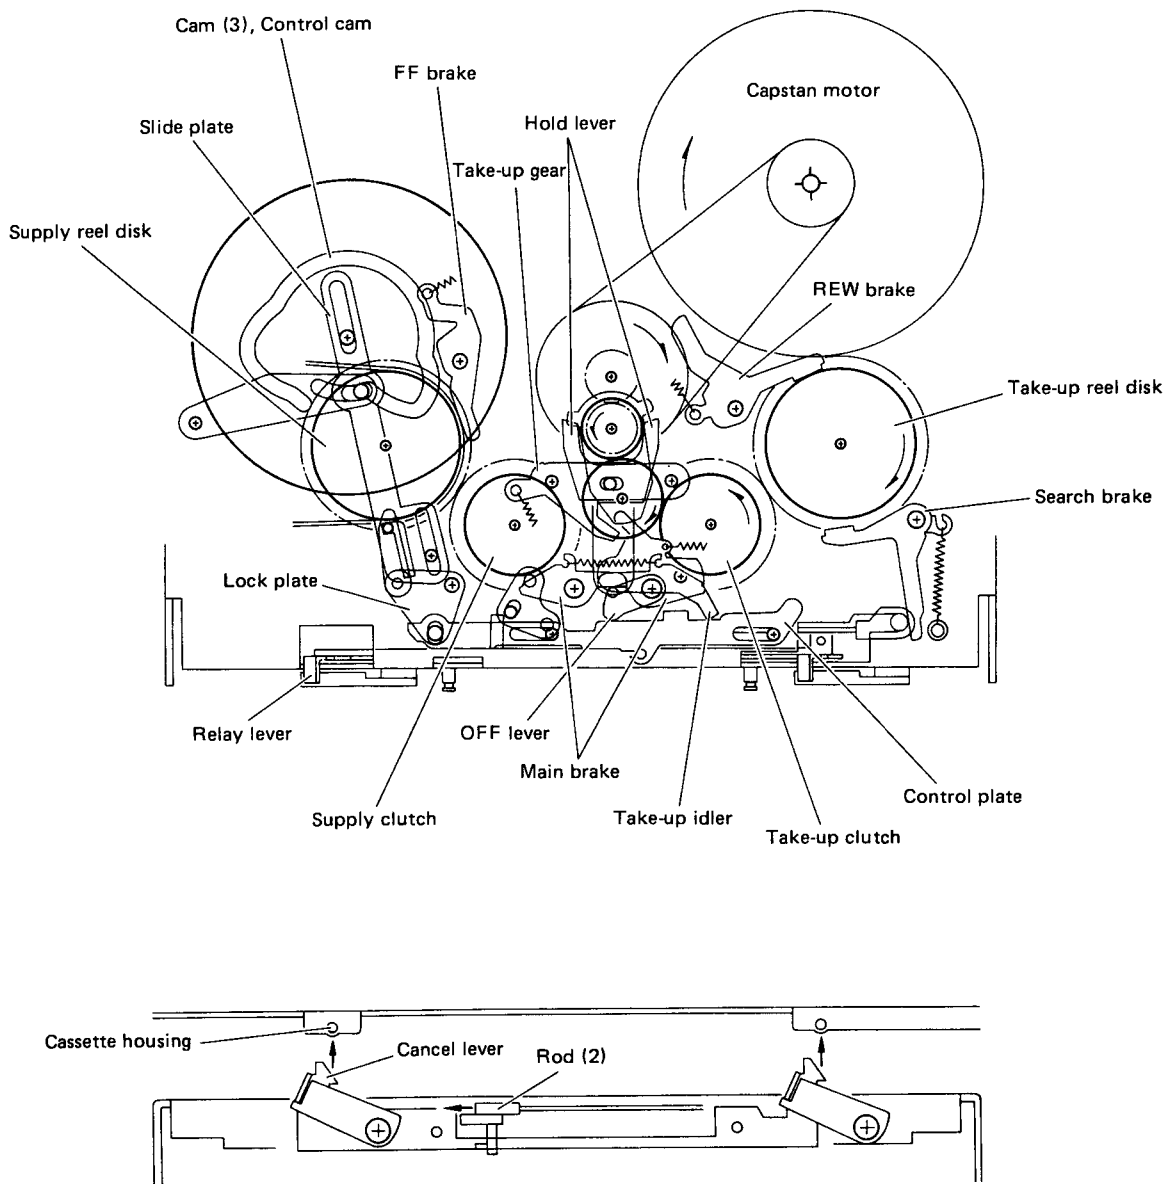

Fig. 7-5-9 FF mode
1. Not to disturb tape travel from the cassette the main brake is off the clutch by function of the cam (3). (Fig. 7-5-9)
3. The search brake is off the reel disk by function of the cam (1).
1. The main brake is off the clutch by function of the cam (3) not to disturb tape in travel. (Fig. 7-5-9)
2. Both the FF and REW brakes are off the reel disk by function of the cam (2).
1. The main brake is off the clutch by function of the cam (3). (Fig. 7-5-9)
1. The rod (2) pushes the lock plate by function of the cam (1) in order to release the housing arm stud from the lock plate.
2. The main brake is off the clutch by function of the cam (3). (Fig. 7-5-9)